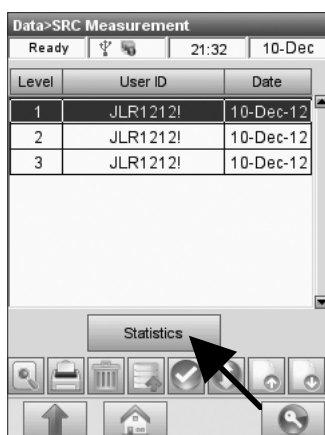

Fig. 6-8 SRC Statistics
2. In the **<Data - SRC Measurement>** screen, press the **<Statistics>** button (Fig. 6-8).